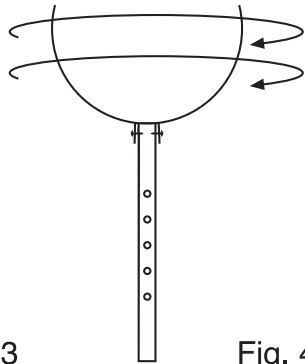

Fig. 4
STEP 5 - ROTATE SADDLE TO ACCOMMODATE THE DIRECTION OF THE DUCT (Fig. 4)
STEP 6 - DETERMINE AND ADJUST HEIGHT TO KEEP DUCT STRAIGHT (Fig. 4)